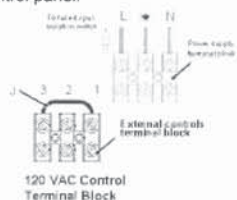

Figure 12.8
- When connecting any type of relay control, the jumper J in Fig. 12.8 must be removed.